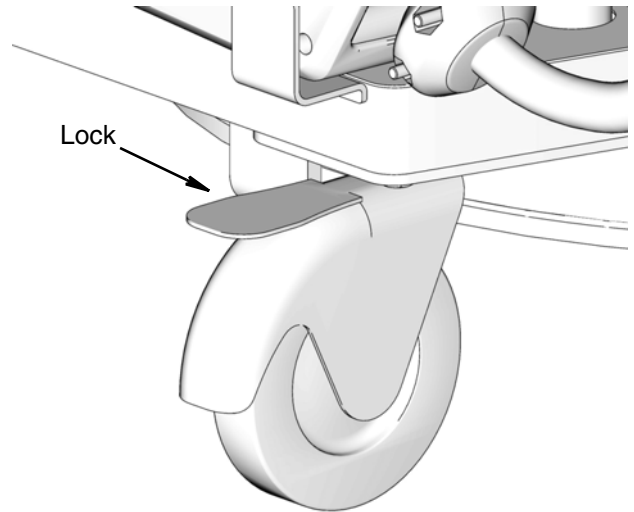

FIG. 36
8. Lock wheel casters to hold cart in place during operation (FIG. 36).